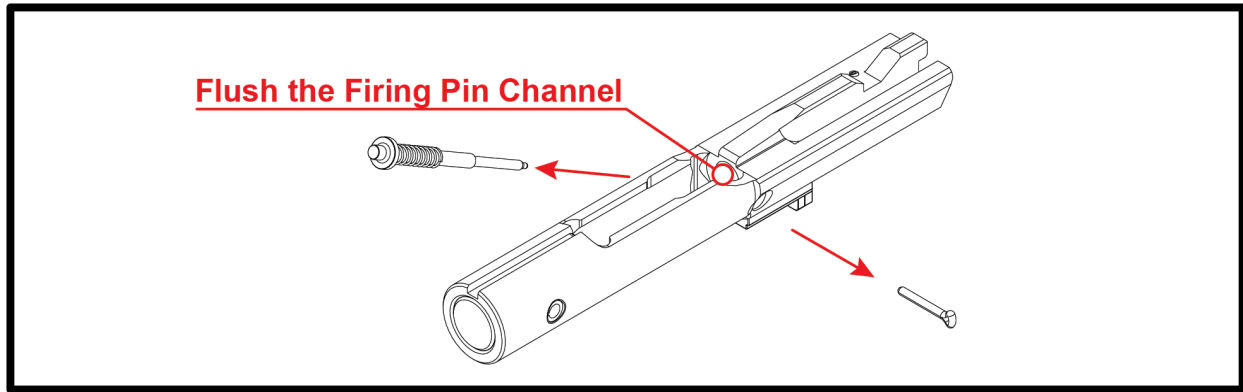

FIGURE 15.1 - Firing Pin Maintenance
15.1 Firing Pin Maintenance (FIGURE 15.1)